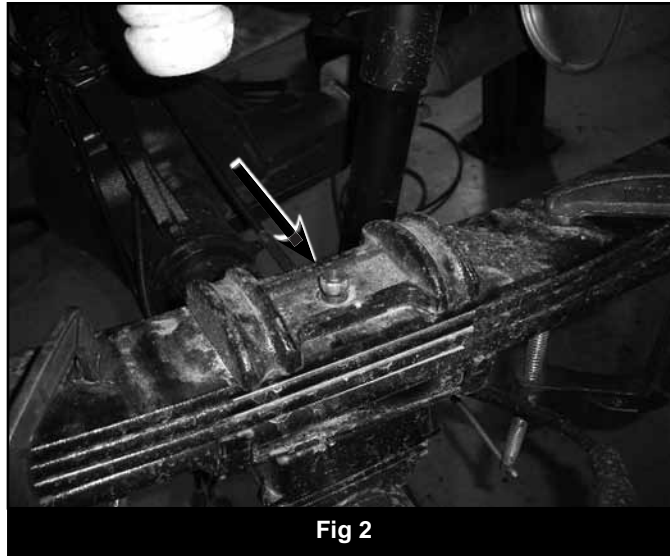

Fig 2
10. F-350 models with overload leaf, the spacer block to the overload leaf needs to be modified. Remove the front tabs (inside and outside) from the casting to give clearance to the new u-bolt. Use a sawzall to remove tabs. Use extreme caution to not create any sparks near the fuel tank. (Fig 2)